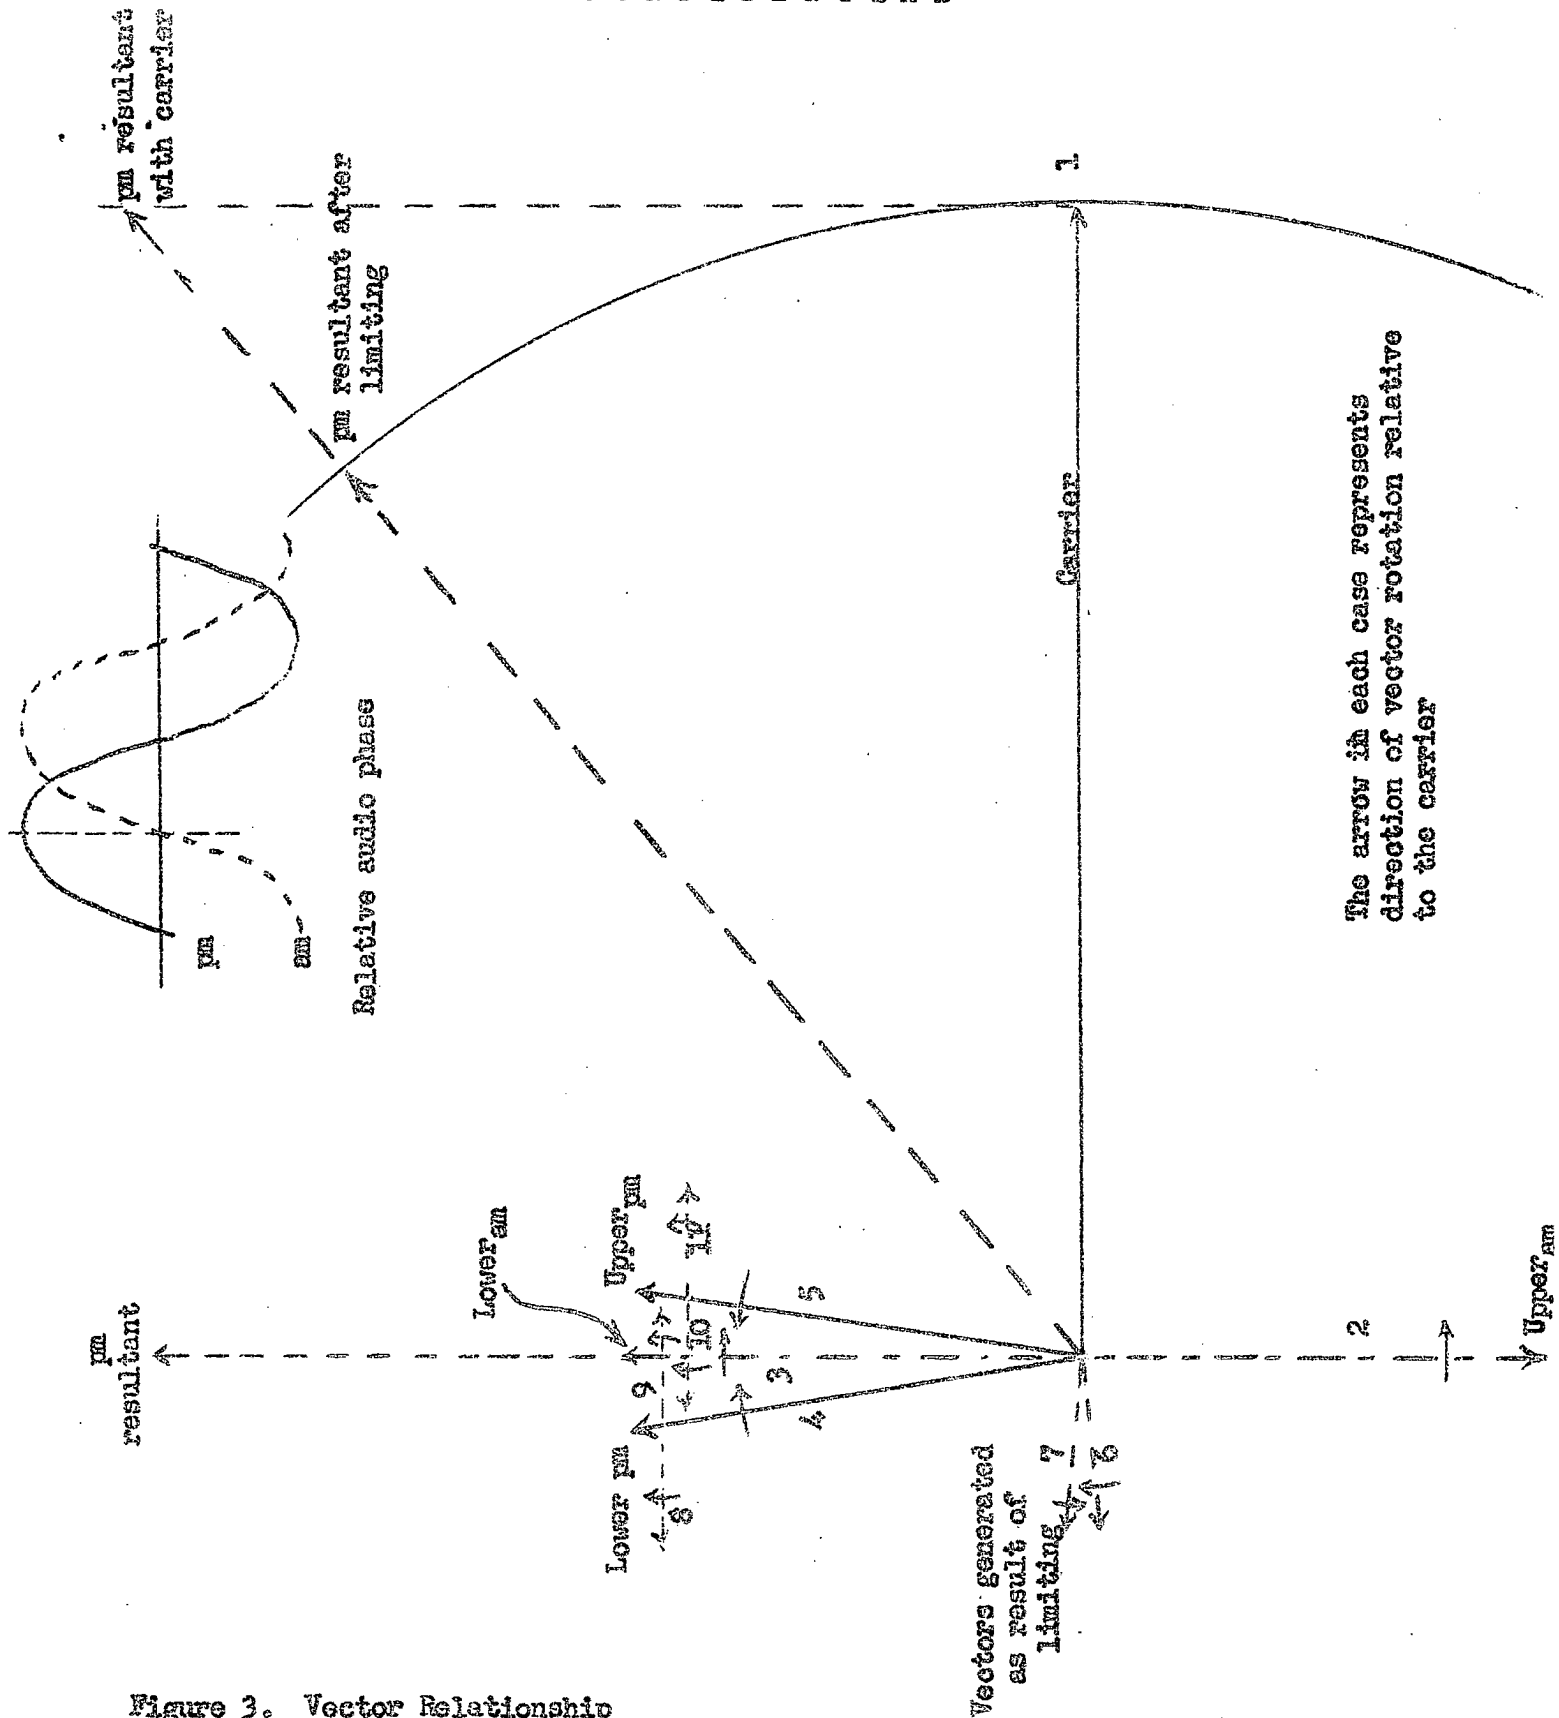

Figure 3. Vector Relationship for Single Tone Modulation.
plus phase modulation components (4, 5, 6, 7) sidebands due to the amplitude modulation process are generated on all components present. New sidebands 2 and 3 are associated with 1 (carrier: 8 and 9 are associated with 4; 10 and 11 are associated with 5; and lesser sidebands not shown are associated with 6 and 7.) Now when the amplitude modulation is at the same frequency as the phase modulation but removed 90 degrees in phase, relationships exist as shown in Figure 3. Certain of the components are at identical frequency and add or subtract as shown in Figure 4. Laboratory tests indicate that the level of a-m sidebands generated on components other than the carrier is not determined directly by the a-m modulation index, but is reduced in the ratio of the component level to carrier level. This factor was used in arriving at the component levels indicated in Figures 3 and 4. As a result of this reduction factor, single sideband performance becomes better at lower modulation levels.
A square law characteristic imposed on the a-m audio will cause cancellation of components shown as 6 and 7 in Figure 3. This reduces the second order sideband on the accept side. The db relationship shown in Figure 4 becomes:
Note: All vectors are shown in correct phase except the carrier (1), which would be shown at the same angle as in Figure 3 if space permitted.